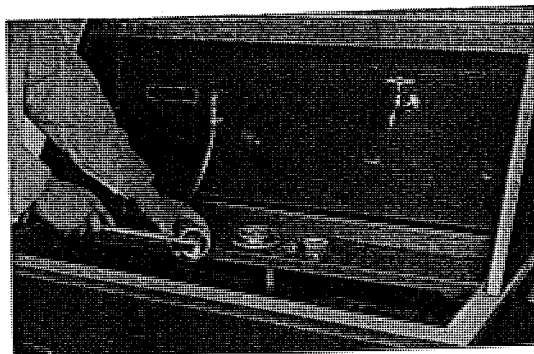

Fig. 3.76 Cleaning oil filter
1. After cleaning all parts of the filter and oil filter cover guide, the disassembly order is reversed for assembly. (Refer to Fig. 3.76)